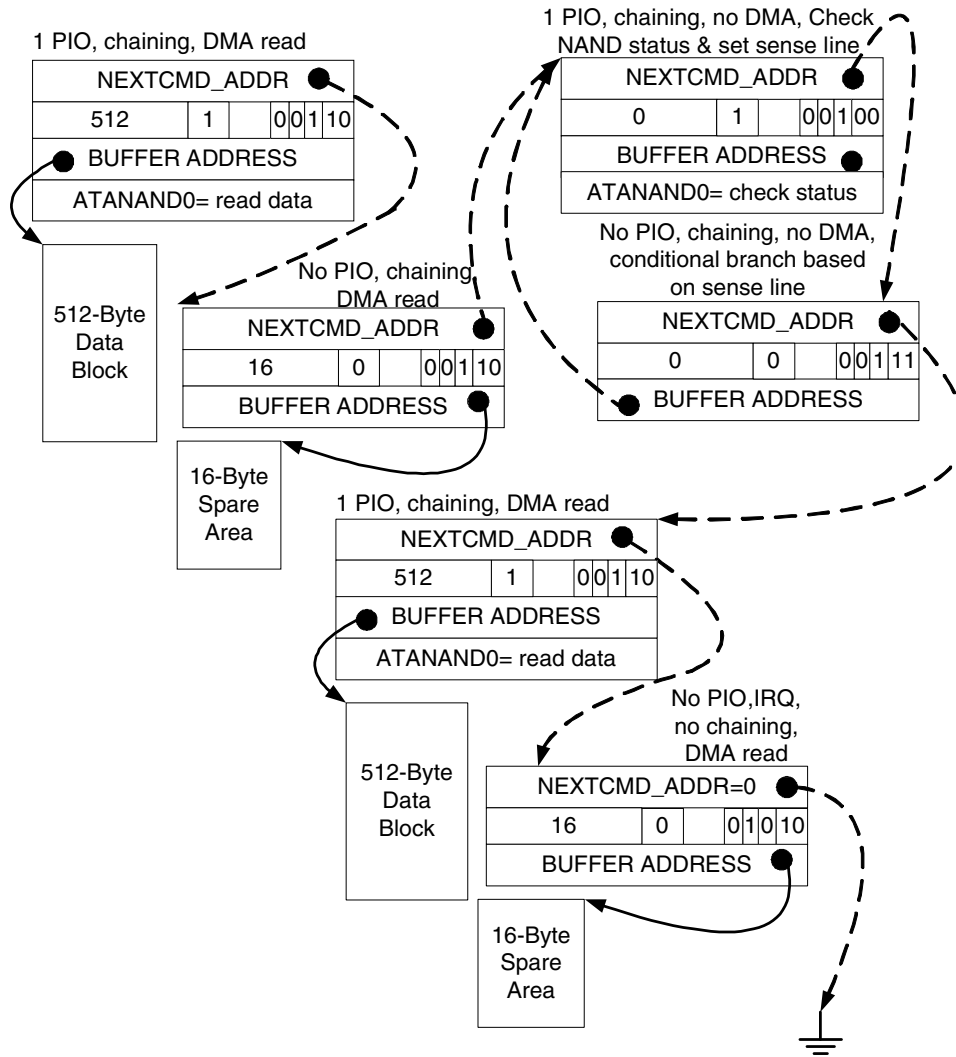

Figure 10-3. AHB-to-APBH Bridge DMA NAND Read Status Polling with DMA Sense Command
sense line is “true,” then the DMA follows the standard list found whose next command is found from the pointer in the NEXTCMD_ADDR word of the command structure. If the sense line is “false,” then the DMA follows the alternate list whose next command is found from the pointer in the DMA Buffer Pointer word of the DMA_SENSE command structure (see Figure 10-3). The sense command ignores the CHAIN bit, so that both pointers must be valid when the DMA comes to sense command.
Figure 10-3 also shows the CHAIN bit in bit 2 of the second word of the command structure. This bit is set to 1 if the NEXT_COMMAND_ADDRESS contains a pointer to another DMA command structure. If a null pointer (0) is loaded into the NEXT_COMMAND_ADDRESS, it will not be detected by the DMA hardware. Only the CHAIN bit indicates whether a valid list exists beyond the current structure.
Figure 10-3 shows a more complicated scenario. This subset of a NAND device workload shows that the first two command structures are used during the data-write phase of a NAND device write operation (CLE and ALE transfers omitted for clarity).
The example in Figure 10-3 shows the workload continuing immediately to the next NAND page transfer. However, one could perform a second sense operation to see if an error occurred after the write. One could then point the sense command alternate branch at a NO_DMA_XFER command with the interrupt bit set. If the CHAIN bit is not set on this failure branch, then the CPU is interrupted immediately, and the channel process is also immediately terminated in the presence of a workload-detected NAND error bit.